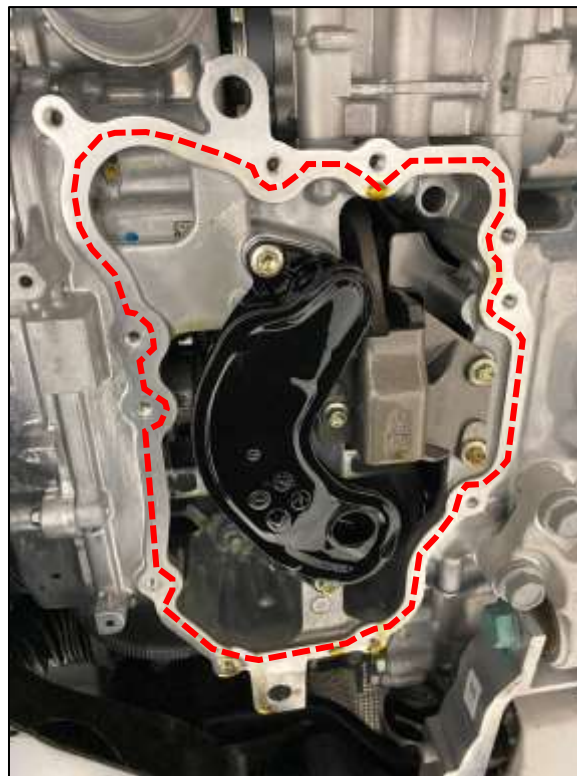

Figure 4
7. Clean the mating surface of the Oil Pan on the Engine. *Figure 4.*